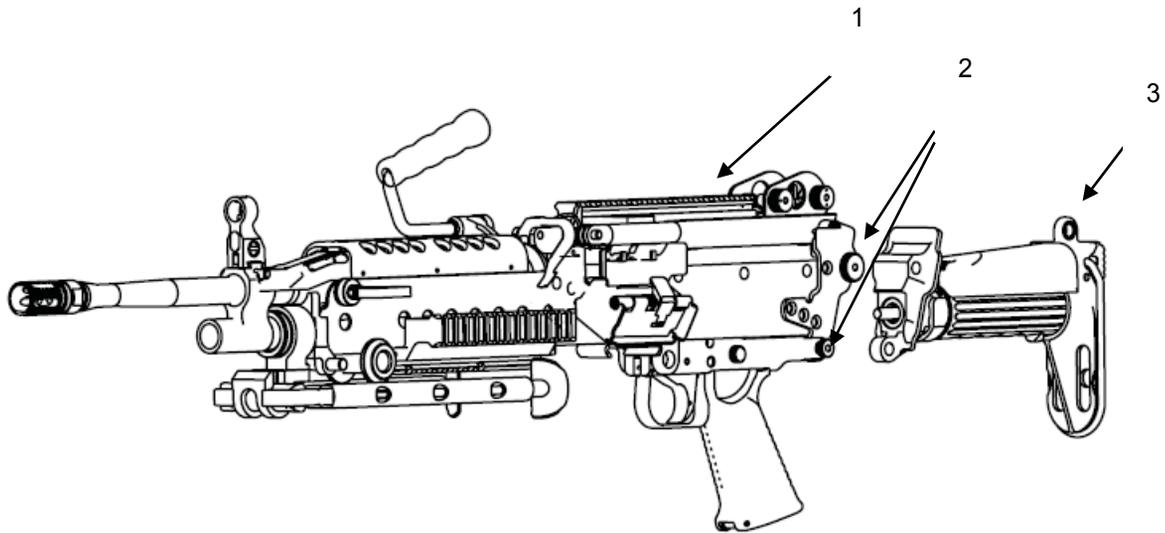

Figure 2. Lightweight Collapsible Buttstock Assembly Removal.
2. Raise cover assembly (Figure 2, Item 1). Ensure that weapon is clear and operating group is forward.
3. Pull the upper and lower retaining pin (Figure 2, Item 2) at the rear of the receiver, to the left.